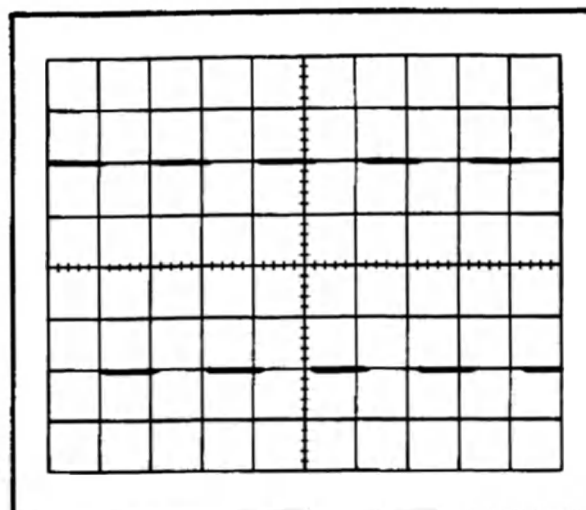

Fig. 5-2. Typical CRT display showing correct vertical gain. Vertical deflection, 0.05 volts/division.
- e. CHECK—CRT display four divisions ± 0.12 division, in amplitude (error $\pm 3\%$; see Fig. 5-2).